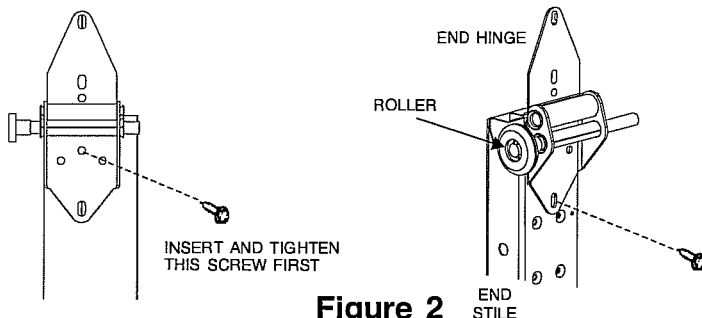

Figure 2
3. Attach end hinges by first inserting the screw next to the barrel of the hinge in the lower half. See Figure 2.
4. Secure end hinges to door section. Refer to Figure 2, page 4.